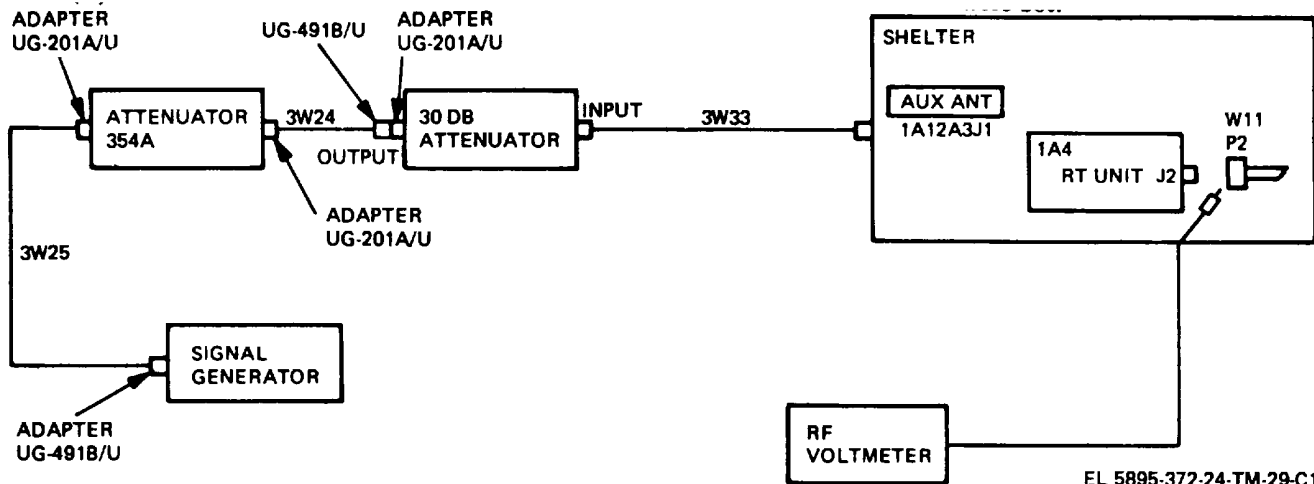

Figure 4-14. Test setup, sij testing.
- (1) Connect test equipment as shown in figure 4-14. All cables used are part of AN/TLQ-15 Unit 3 extender cable set.